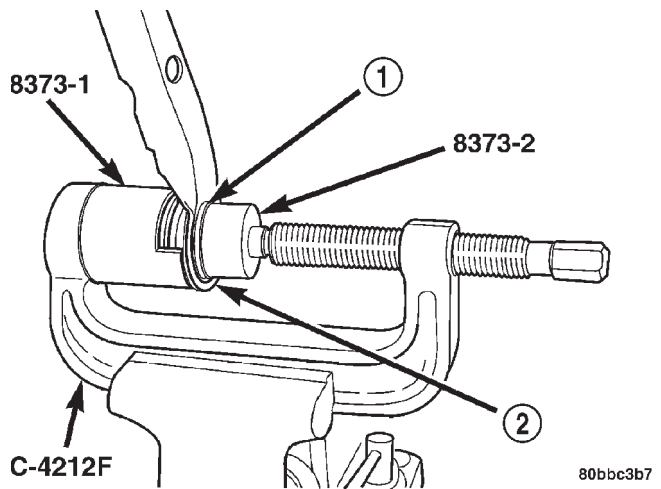

Fig. 48 Removing Bushing
(1) Install the Remover Receiver, Special Tool 8373-1, into the cup of the Ball Joint Press, Special Tool C-4212F, and tighten the set screw. Install the Remover Driver, Special Tool 8373-2, on the tip of the Ball Joint Press screw-drive.
(2) Place the lower control arm outer flange against the Receiver as shown (Fig. 48). Tighten the screw-drive until the Driver contacts the outer circumference of the bushing evenly (Fig. 48). Continue to tighten the screw-drive until the bushing is pressed completely out of the lower control arm.